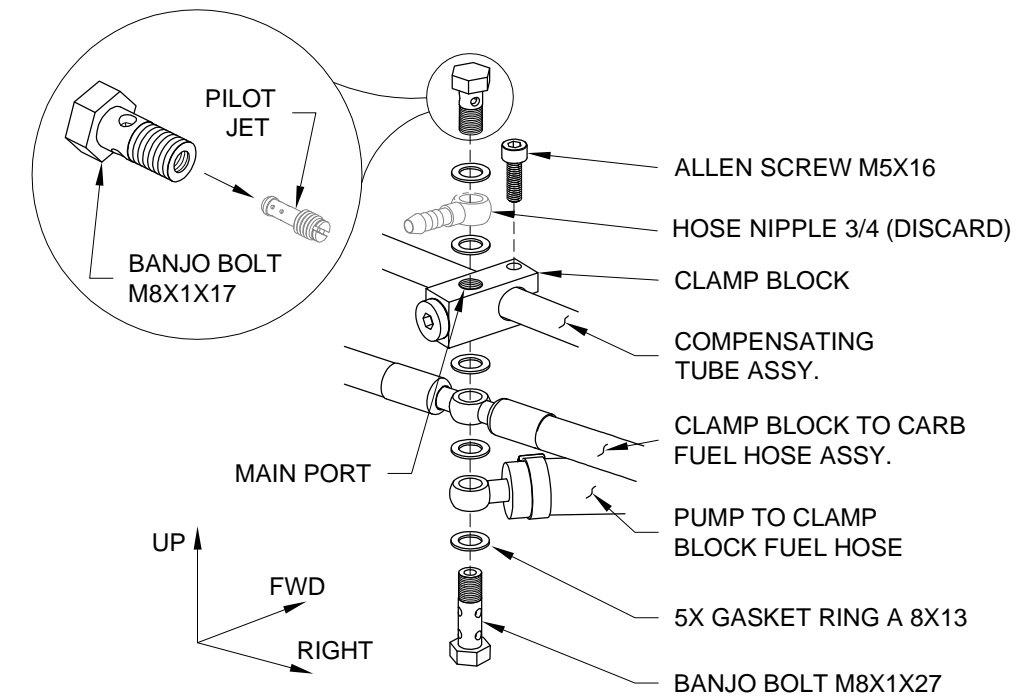

FIGURE 5: DISASSEMBLE CLAMP BLOCK
Step 5: Remove the two banjo bolts, copper rings and fuel hoses from the clamp block as shown in Figure 5. Remove the Hose Nipple 3/4 as shown in Figure 5. It will not be replaced but keep it in a safe place. Be prepared to catch falling copper gasket rings.
Step 8: Remove the pilot jet from the banjo bolt M8X1X17 as shown in Figure 5. It will not be replaced but keep it in a safe place.